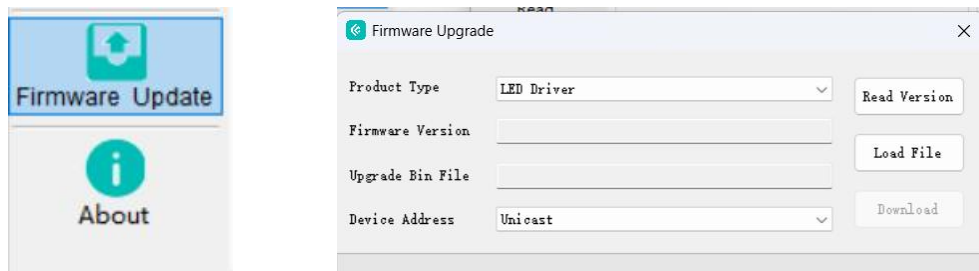

Figure 9
- 1.Click “Firmware Update” button.open firmware upgrade UI.see Figure 9.